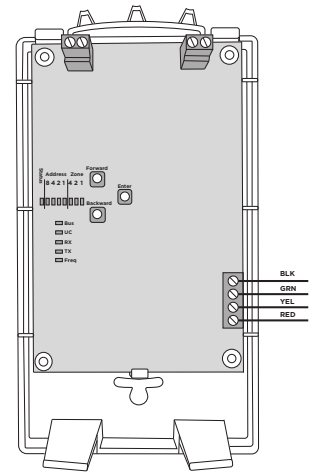

Figure 3: PCB Features and Wiring Connections
5. Insert the included antennas into the **Antenna** terminals at the top of the PCB. See Figure 3. Tighten the screws until the antennas are secured in place.
2. Connect the wires to the 738T's terminals. See Figure 3.
The 738T allows you to easily switch between 319.5 and 345 MHz by pressing the **Enter** button on the PCB. Use the **Freq** LED to determine which frequency is currently selected. See Figure 3 for the button and LED locations.